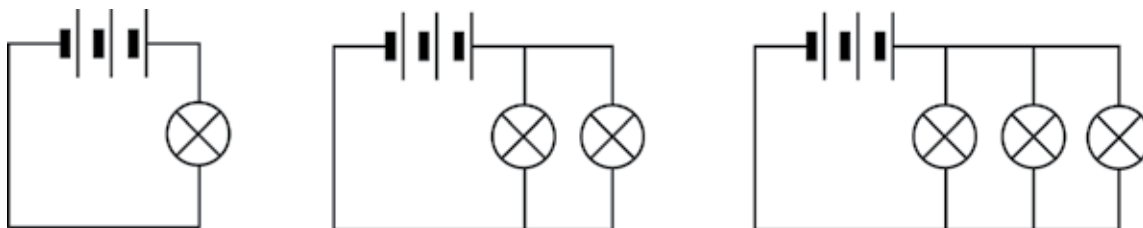

Figure 4: Bulbs connected in parallel
2. Look at Figure 4, and show your predictions of how bright the bulbs will glow when they are connected in parallel. Then connect the components and test your predictions.